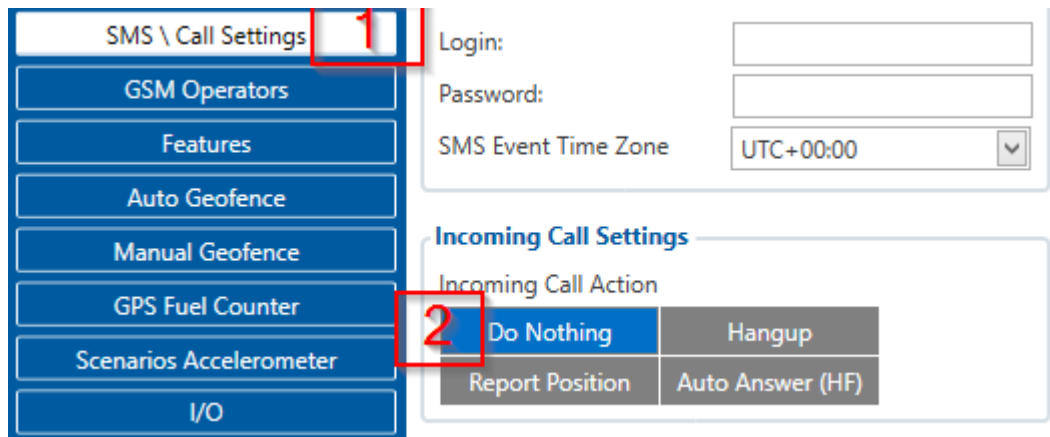

Figure 35 Incoming Call Action settings
9. Go to “SMS \ Call Settings” in left menu and set “Incomming Call Action” to “Do Nothing” visible at **Figure 35**.